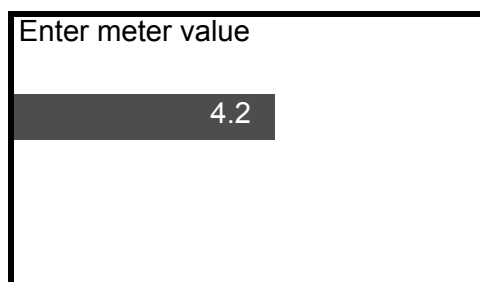

Figure 38 Current value input display
5. By selecting F4 (OK) in the above step, the converter's indicator will flicker and _IN I.OUT OUTPUT MODE display will appear. The HART[®] Communicator displays on its screen the present current input value. (Figure 38) Measure the output current from the converter and enter it into the device. Once the input has been completed, press F4 (ENTER). To cancel, press F3 (ABORT) and proceed to step 10.
8. By selecting F4 (OK) in the above step, the converter's indicator will flicker and the _IN I.OUTPUT MODE display will appear. The HART[®] Communicator shows on the display the present current input value. (Figure 38) Measure the output current from the converter and enter this value into the device. Once this is completed, press F4 (ENTER). To cancel, press F3 (ABORT) and proceed to step10.